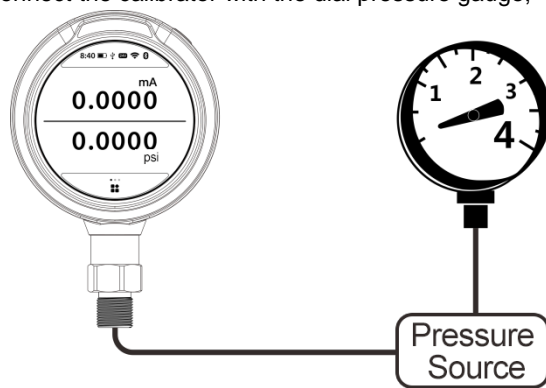

Figure 12 Calibrate Dial Pressure Gauge
(1) Refer to Figure 12, connect the calibrator with the dial pressure gauge;